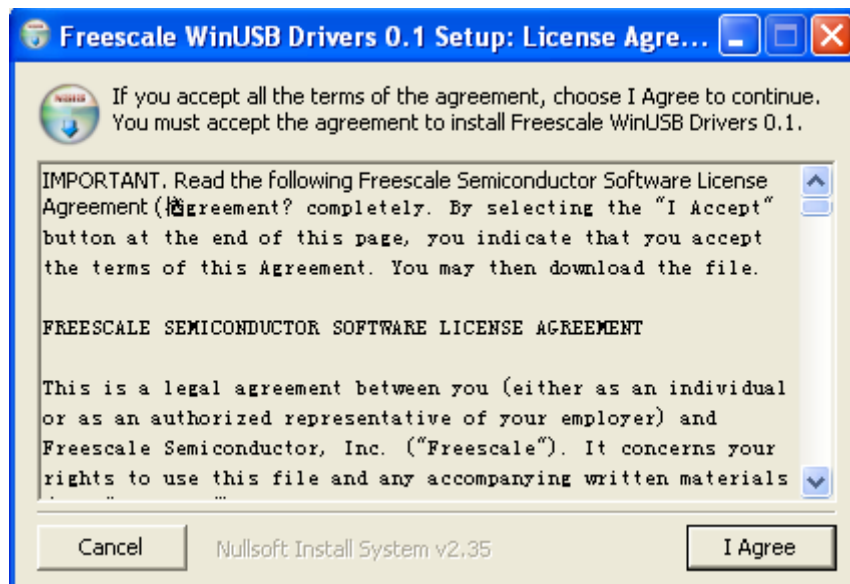

Figure 6. Agreement for installation of USB driver
- In the rest of the installation process the bootloader's USB driver (WinUSB) will be installed in the system. The dialog in Figure 6 appears after the process is completed.
The user must select I Agree to continue with the installation (Figure 6).